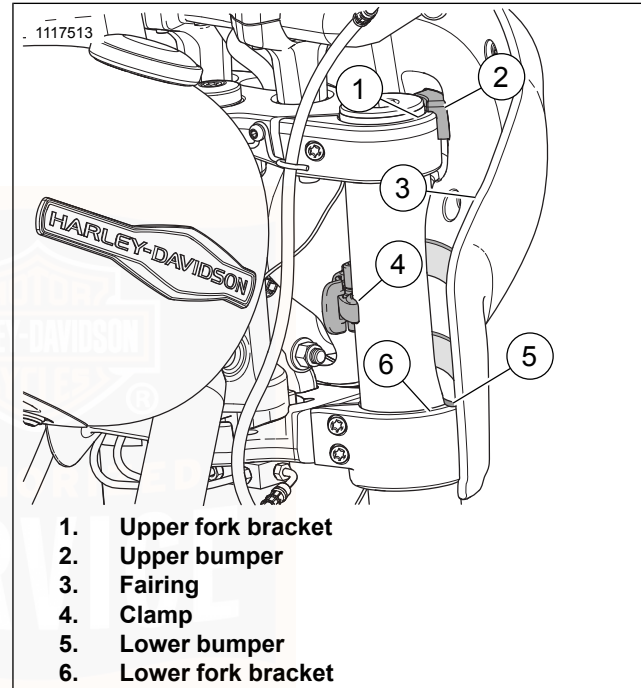

Figure 43. Fairing Installed
1. See Figure 43. Remove fairing.
- b. Open clamps (4).
- c. Straddle fender. Lift fairing (3) up over headlamp.
- c. Straddle front fender. Place fairing over headlamp and onto front forks (5).
- d. See Figure 43. Position upper bumper (2) on upper fork bracket (1).
- e. Verify lower bumper (5) is seated on lower fork bracket (6).